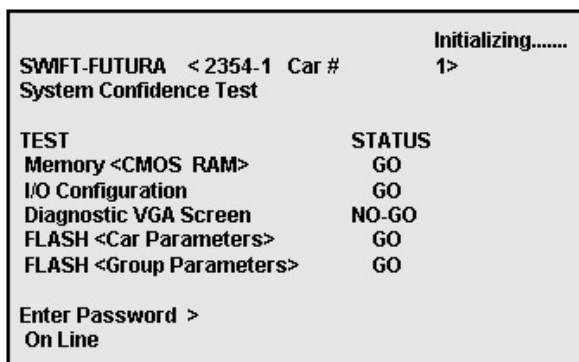

Figure 4-8
4. Cycle off CB2 then back on and check terminal for Confidence test. [See Figure 4-8.]